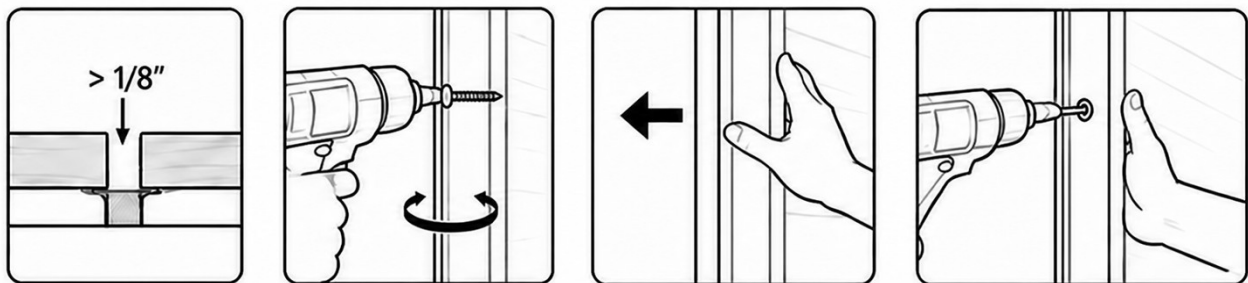

Figure 8. Seating a wall to close a floor gap: push from outside, stabilize from inside.
- Minor gaps between the floor and the wall panels are normal. If any gap exceeds 1/8 in, partially unscrew the panel, have one person push from the exterior to seat it properly, and retighten while a second person stabilizes from inside (Figure 8).